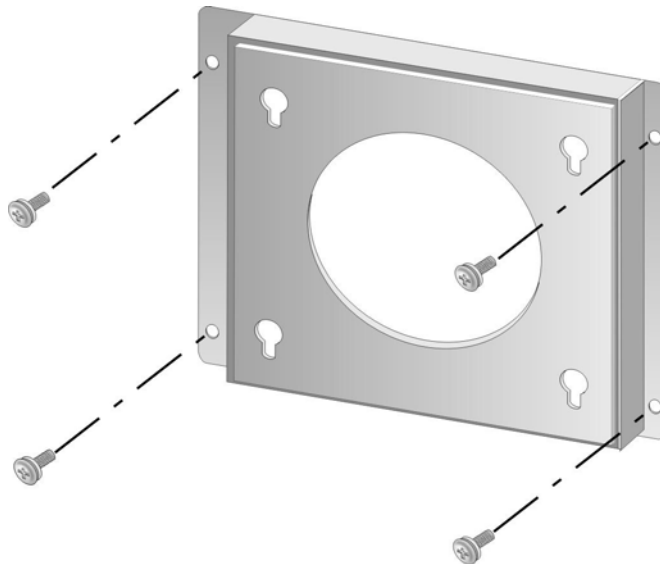

Figure 3-17: Wall Mounting Bracket
- Step 5:** Secure the mounting bracket to the wall by inserting the retention screws into the four pilot holes and tightening them (**Figure 3-17**).